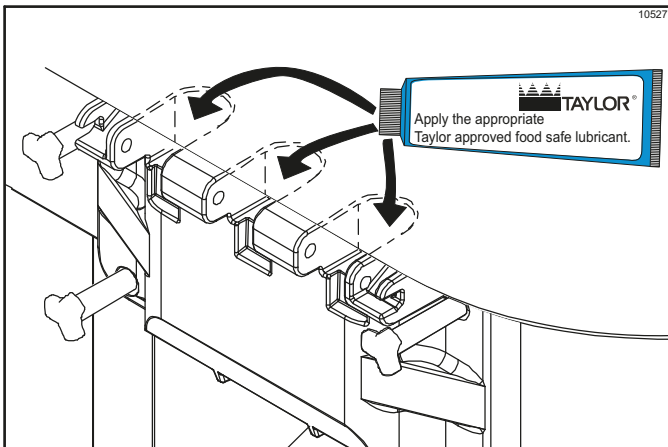

Figure 6-13
20. Lubricate the inside of the freezer door spouts, top and bottom. (See Figure 6-13.)